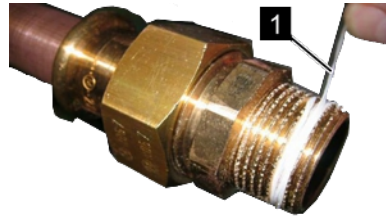

Fig. 9: Apply sealing thread
- #### 2. ▶ Apply sealing thread (Fig. 9/1) to the napped area in the thread direction. Observe the quantity recommended by the sealant manufacturer